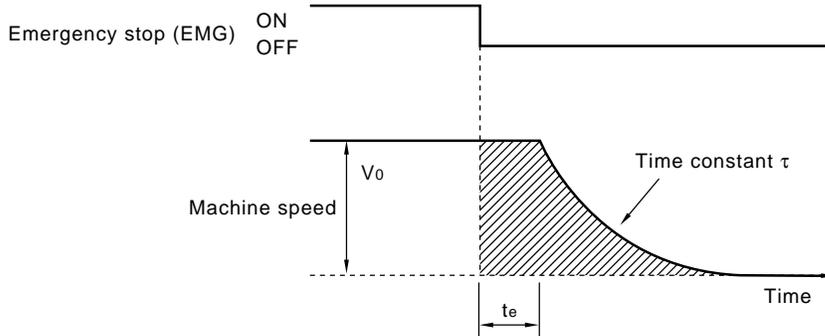
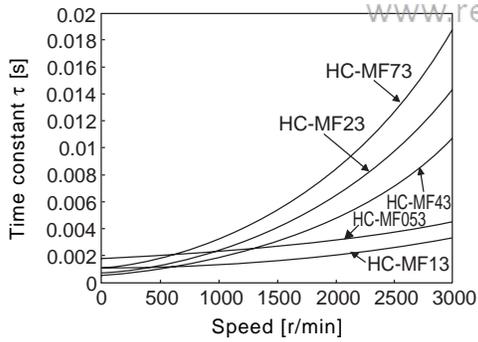
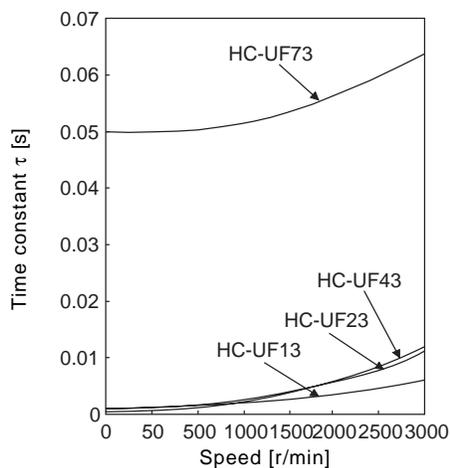

Fig. 9-5 Dynamic Brake Operation Diagram
Fig. 9-6 HC-MF Dynamic Brake Time Constant
Fig. 9-12 HC-UF3000r/min Dynamic Brake Time Constant
When an alarm, emergency stop or power failure occurs, the dynamic brake is operated to bring the servo motor to a sudden stop. Fig. 9-5 shows the pattern in which the servo motor comes to a stop when the dynamic brake is operated. Use Equation 9-3 to calculate an approximate coasting distance to a stop. The dynamic brake time constant τ varies with the servo motor and machine operation speeds as indicated in Table 9-3 and as shown in Fig. 9-6 to Fig. 9-12.
- τ : Brake time constant (Fig. 9-6 to 9-12 • Table 9-3) [s]
- t_e : Delay time of control section (Fig. 9-5) [s]